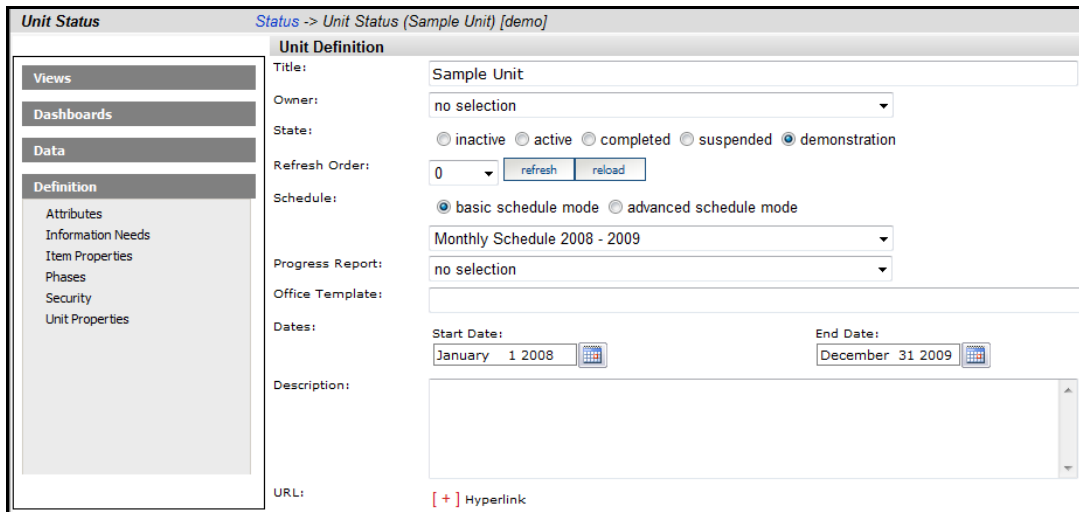

Figure 330
5. Click the Unit Properties command (Figure 330)